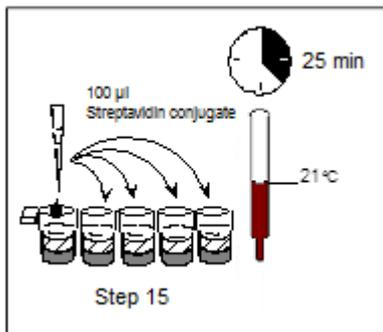

Fig. 5 Streptavidin Conjugate procedure
14. Add 100 μ L of the Streptavidin Conjugate to each well and **incubate 25 minutes**. (see fig. 5)